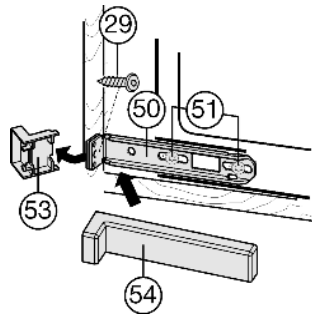

Fig. 21
- ▶ Slightly loosen the screws Fig. 21 (51).
- ▶ Secure the bottom mounting bracket Fig. 21 (50) to the unit wall with a $\varnothing 4 \times 19$ chipboard screw Fig. 21 (29).
- ▶ Break off the protruding end of the cover Fig. 21 (53).
- ▶ Tighten the screws Fig. 21 (51).
- ▶ Place the cover Fig. 21 (54) into position on the bottom mounting bracket Fig. 21 (50).